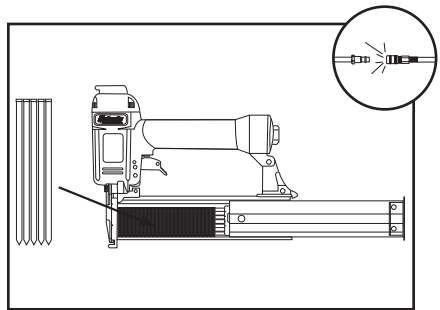

Figure 4. Loading nails into brad magazine.
4. Insert a strip of nails, pointed-end down, into the magazine as shown in **Figure 4**.